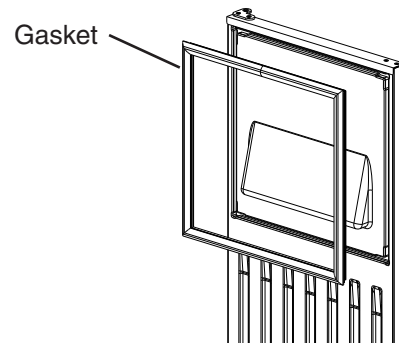

Fig. 17
- 8) Remove the gasket from the door. See Fig. 17.